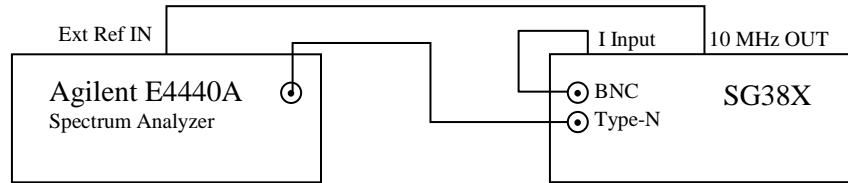

Figure 17: Option 3 IQ modulator test.
This test verifies the operation of the option-3 IQ modulator. This test requires the setup shown in Figure 17
1. Connect the equipment as shown in Figure 17